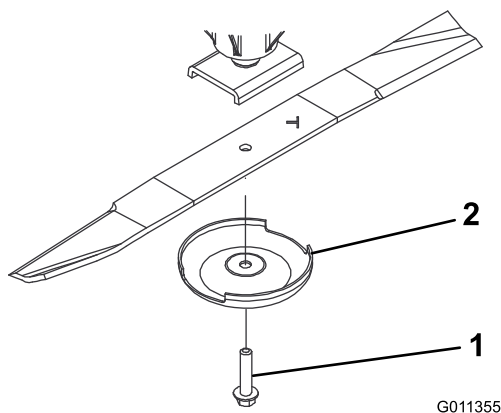

Figure 62
2. Grasp the end of the blade using a rag or thickly padded glove. Remove the blade bolt, anti-scalp cup, and blade from the spindle shaft (Figure 62).
3. Install the blade, sail facing toward the cutting deck, with the anti-scalp cup and blade bolt (Figure 62). Tighten blade bolt to 115–149 N-m (85–110 ft-lb).